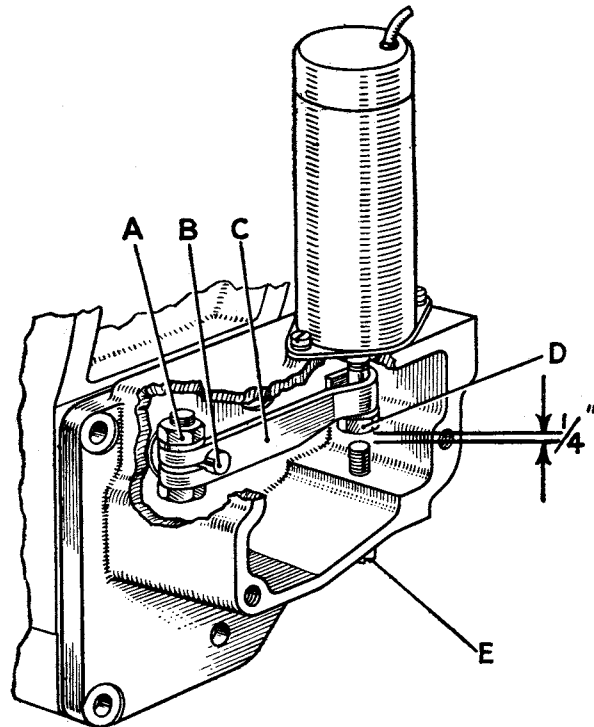

Fig. 8 Adjusting the Solenoid Lever.
It is very unlikely that any maladjustment of the lever will develop to prevent overdrive from releasing. Make sure that there is  $\frac{1}{4}$ " (6.35 mm.) clearance between the solenoid adjusting screw (E) (Fig. 8) and the head of the solenoid bolt when the plunger is lifted. The setting and working